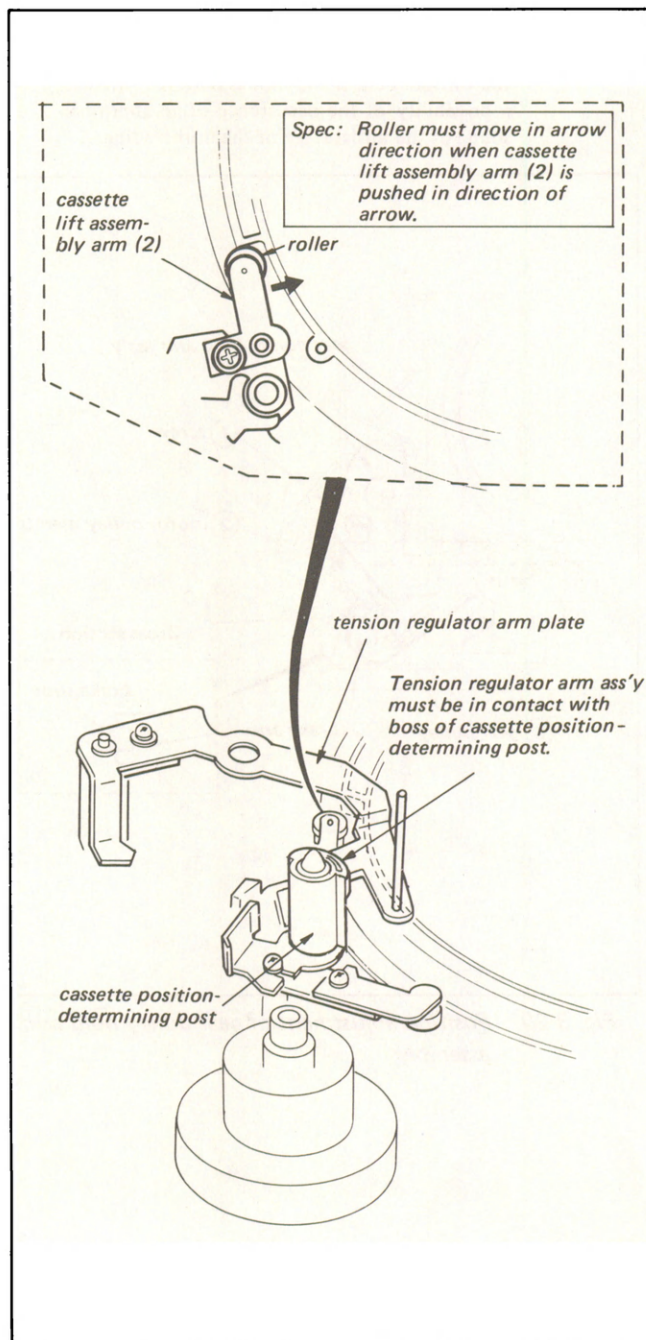

Fig. 3-23. Check of unthreading completion
3. Confirm that the roller of cassette lift assembly arm (2) shown in Fig. 3-23 moves in the arrow direction when the cassette lift assembly arm (2) is pushed in the arrow direction.
4. Confirm that the tension regulator arm assembly is in contact with the boss of the cassette position-determining post. (See Fig. 3-23.)